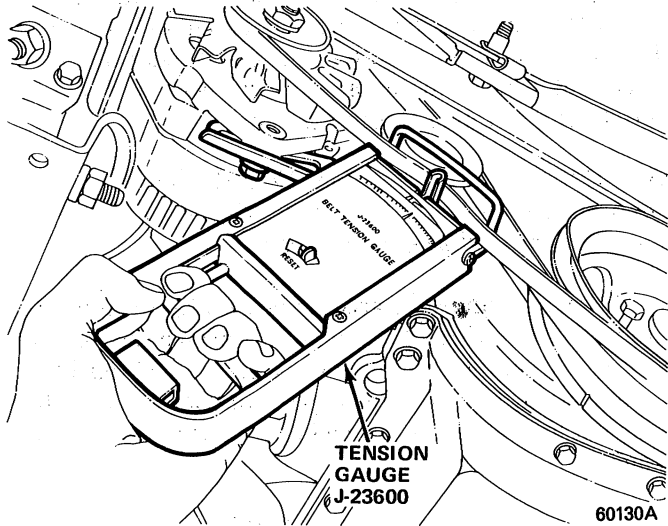

Fig. 1C-16 Drive Belt Tension Test—Typical
- (1) Locate drive belt that is to be tested for correct tension.
- (2) Test tension with Gauge J-23600 or J-29550 if accessibility is limited (fig. 1C-16).
- (3) If necessary, adjust drive belt.
- (4) Re-test tension after adjustment.